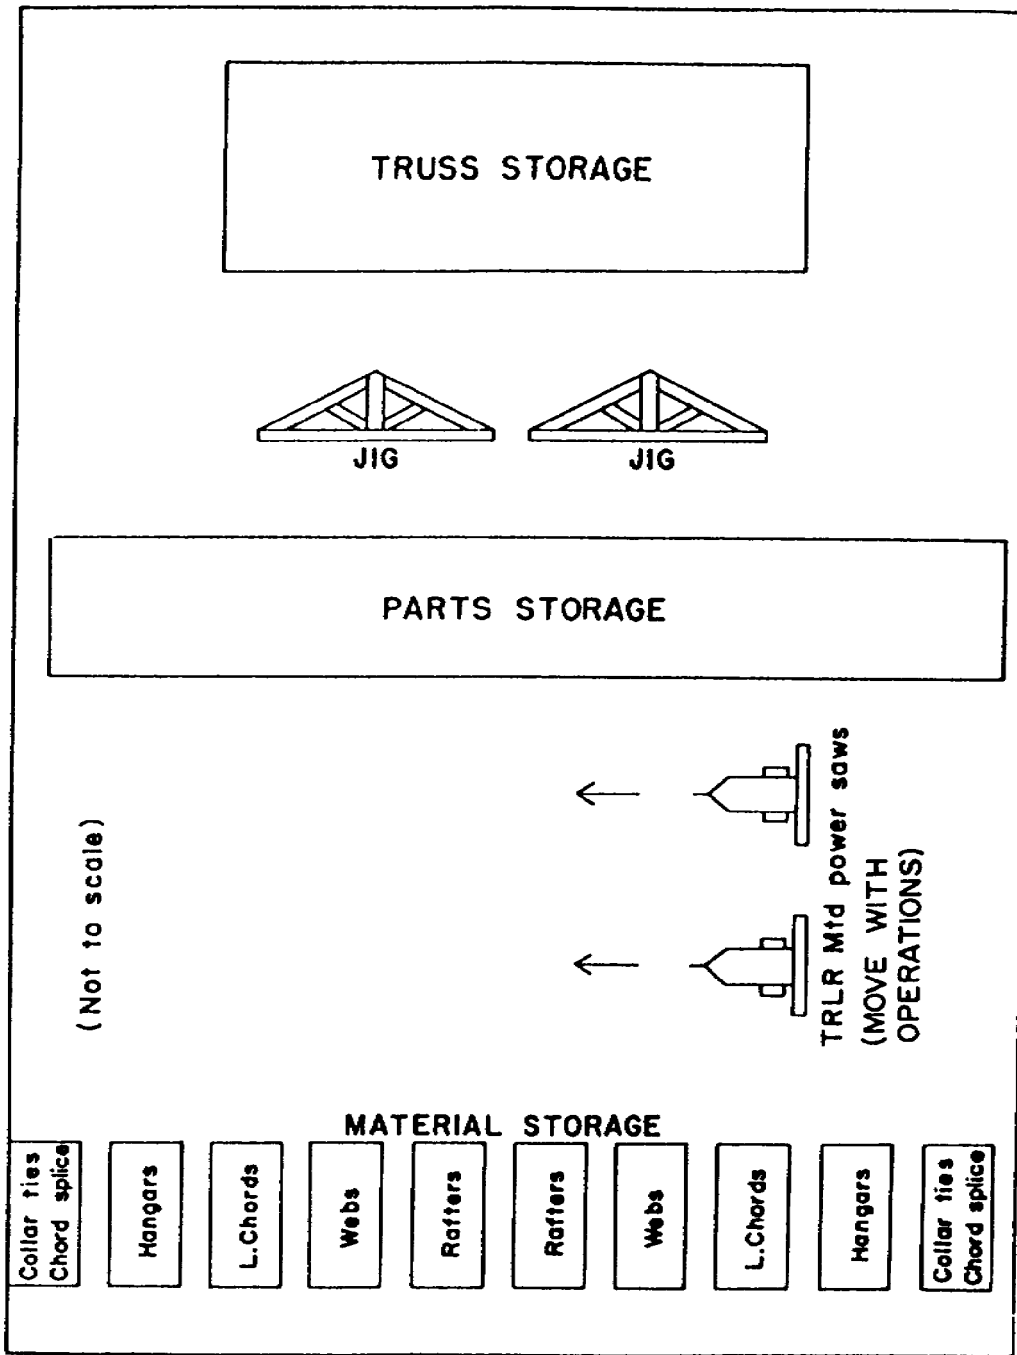
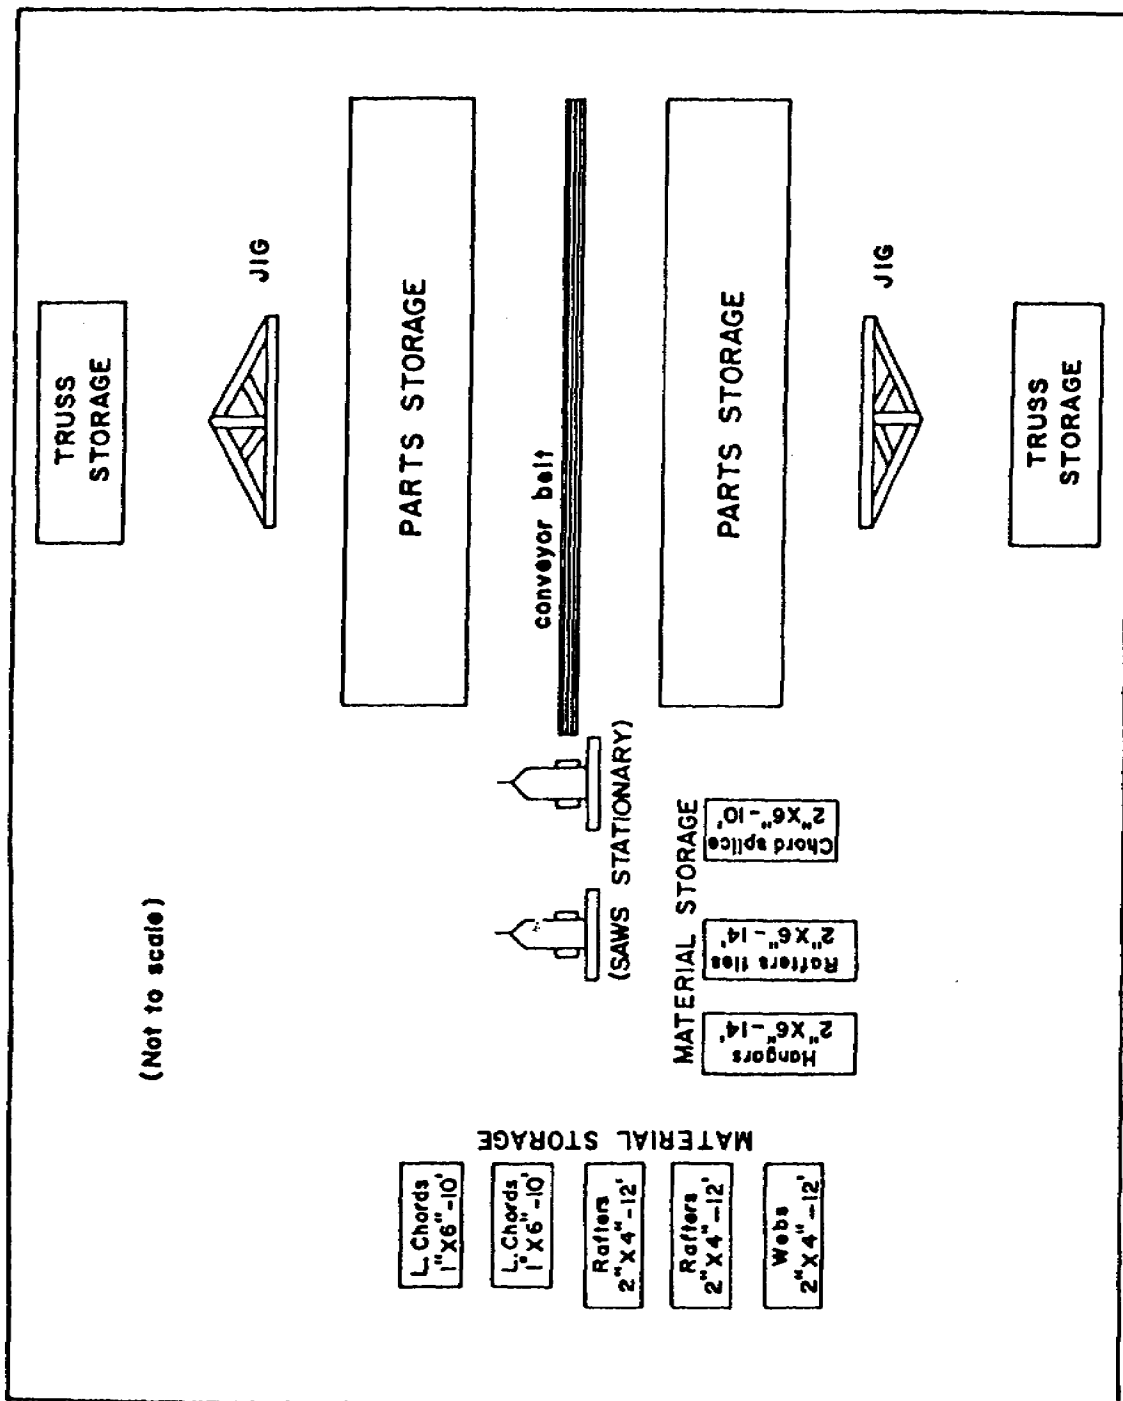

Figure 5-1. First trial layout. (For use with exercise 16)
Figure 5-2. Second trial layout. (For use with exercises 16 and 17)
16. The methods analysis system may be used as a means of improving an existing layout. Figures 5-1 and 5-2 show two plant layouts for cutting and assembling trusses. For what reason is figure 5-2 more efficient than figure 5-1?
- a. the saws are nearer the truss storage area in figure 5-2
- c. the jigs are nearer the parts storage area in figure 5-2
- d. figure 5-2 does not require movement of the saws
17. Figure 5-3 shows a better plant layout for cutting and assembling trusses than does figure 5-2. Why is this so?
| 6. d (figure 4-5) | 16. d (figure 5-1, 5-2 of the solution) |
| 7. b (figure 4-10) | 17. b (figure 5-2, 5-3 of the solution) |
16. The plant layout shown in figure 5-2 is more efficient than that in figure 5-1 because the saws in figure 5-2 do not require movement (d).
17. Figure 5-3 portrays a better plant layout than does figure 5-2 because the parts storage and assembly facilities are greater in figure 5-3 (b).